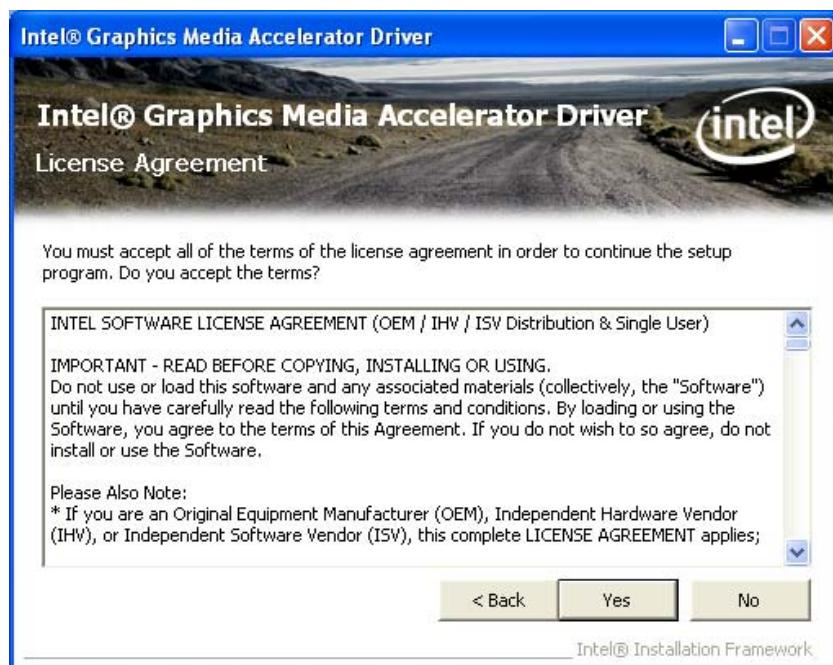

Figure 6-12: VGA Driver License Agreement
**Step 8:** The license agreement in **Figure 6-12** appears.